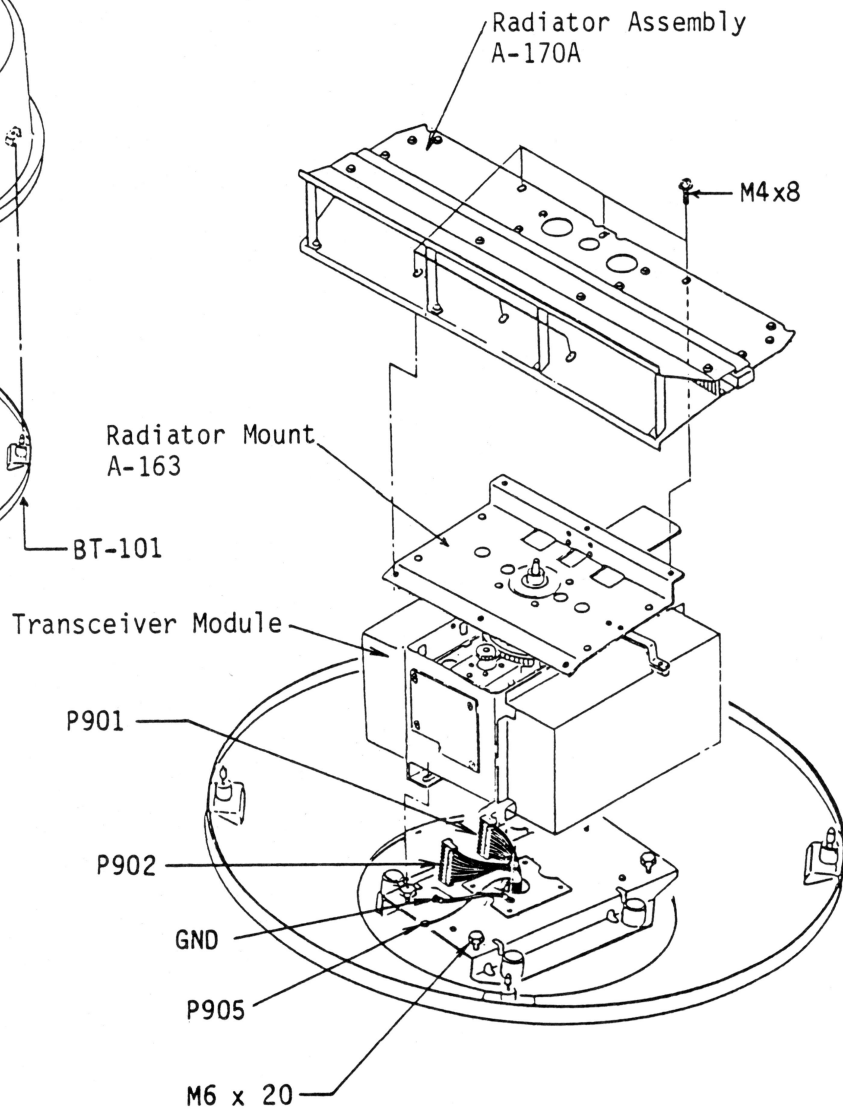

Fig.3-4
- 2) Loosen the six M4x8 screws, and lift the radiator assembly A-170A up carefully. See Fig.3-4.
- 2) Disconnect plugs P901, P902 and P905, referring to Fig.3-4.
- 3) Loosen the four M6x20 hex. bolts and take out the transceiver module together with the radiator assembly. See Fig.3-4.